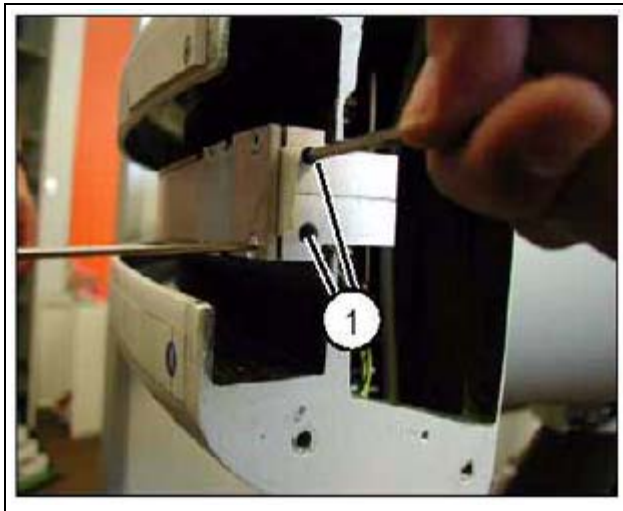

Fig. 24: Brake 7
3. Loosen the drive belt (1/Fig. 24 / p. 67).
7. Tension the drive belt (1/Fig. 24 / p. 67).